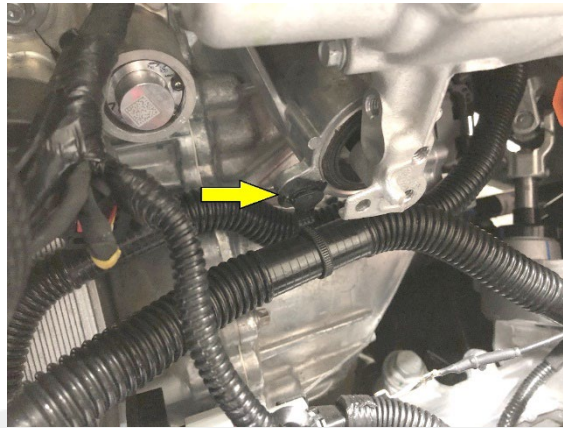

Figure 40
34. Fasten the clip that attaches the coolant hose to the A/C compressor bracket (Figure 40).